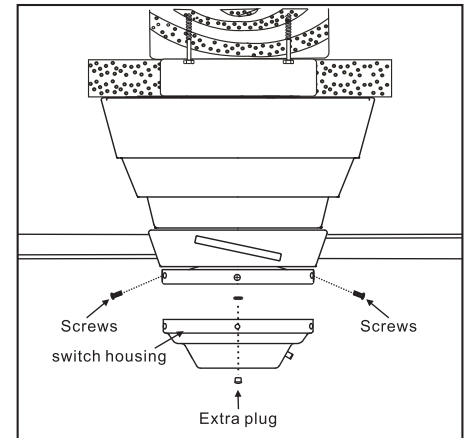

Figure 16
2. Attach the extra plug to the switch housing with nut previously loosened and tighten securely. (Figure 16)
3. Holding the switch housing under your fan, snap together the wire connection plug.(Figure 16)
4. Install the switch housing to the mounting plate with the screws provided in the loose parts bag. (Figure 16)